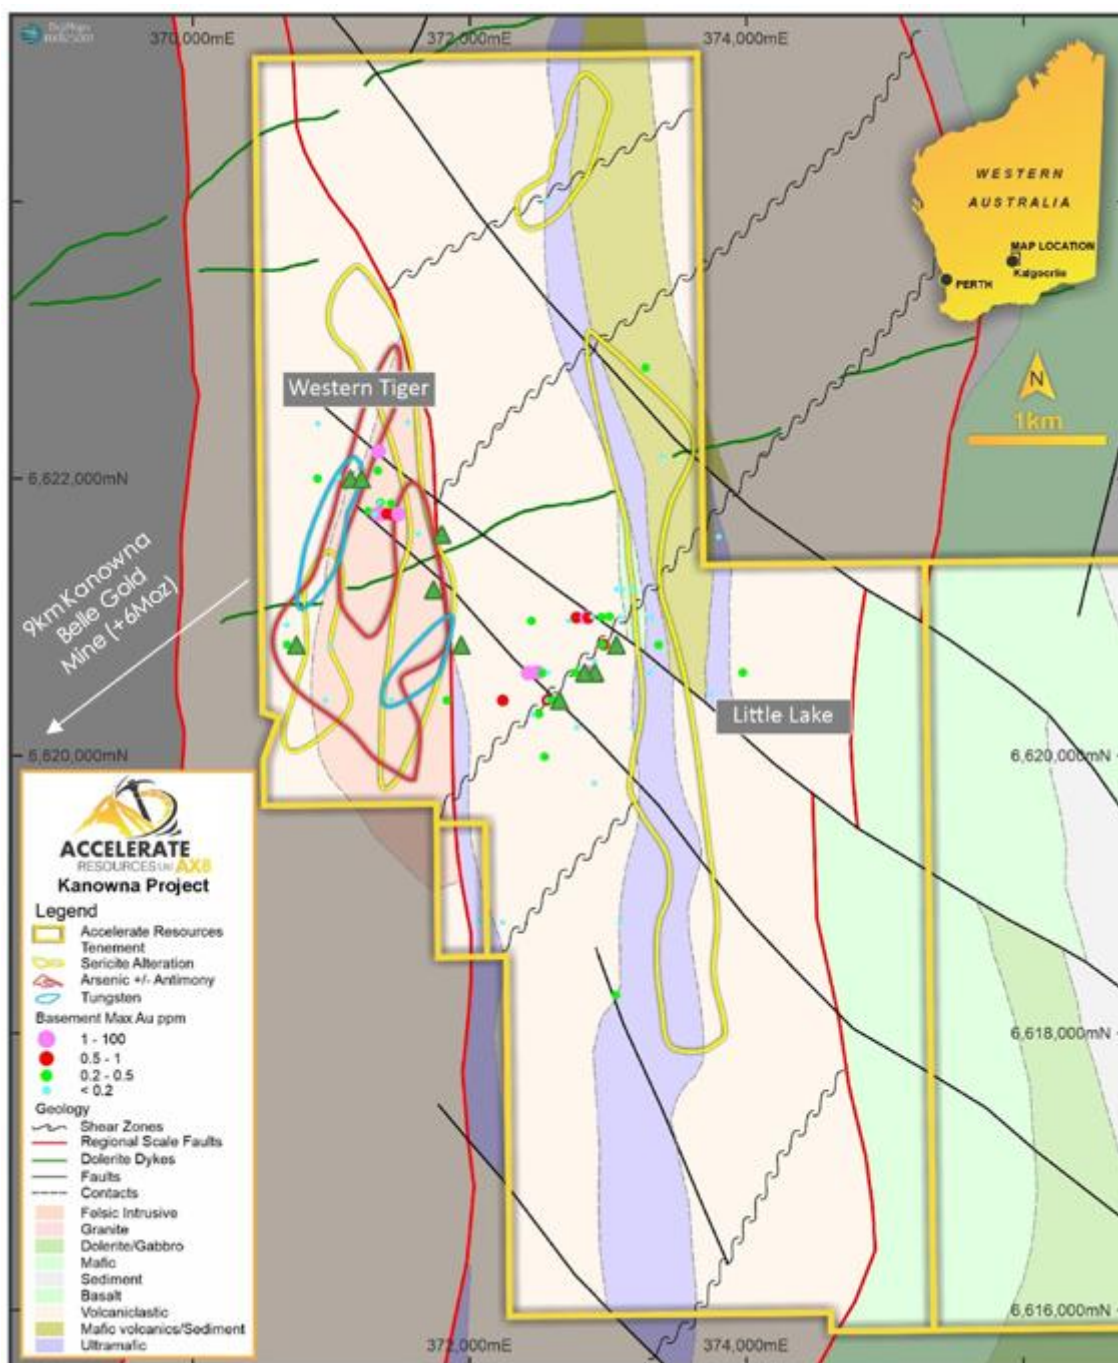

Figure 2: Western Tiger & Little Lake geology interpretation with planned RC drill hole locations (green triangles).
The 2,000m reverse circulation (RC) program is testing structurally controlled, basement-hosted gold targets at the Western Tiger and Little Lake Prospects (Figure 2). These targets have been selected based on structural complexity, geophysical modelling, and geochemical signatures indicative of gold-bearing systems.